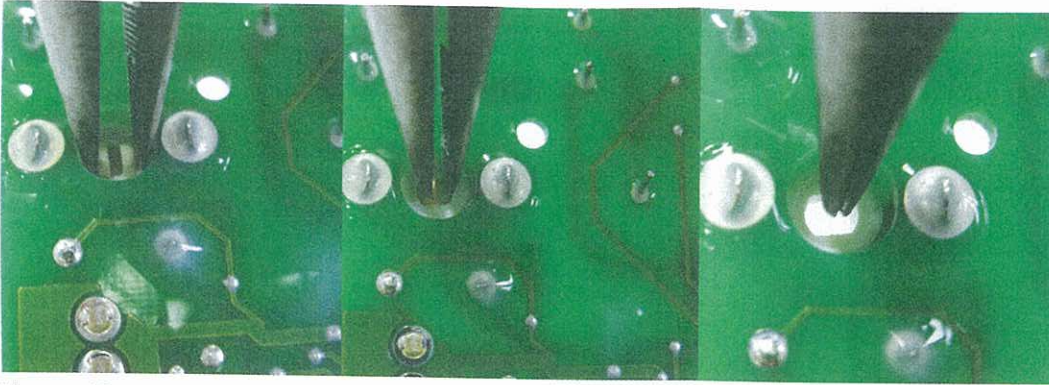

Figure 13
9. If adjustment knobs were damaged or broken while trying to remove, then perform step 9. If the adjustment knobs were not broken, go to step 10. Flip the control board over and use the needle nose pliers to pinch together the locking tabs on the adjustment knob (Figure 13). While the locking tabs are pressed together, push the broken adjustment knob through the hole. Use the extra adjustment knobs supplied in the repair kit.